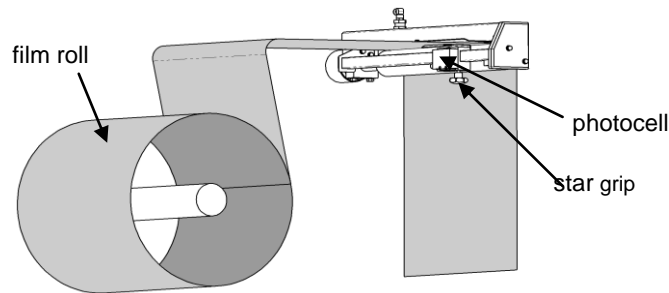

Figure 5.7 Setting the photocell
The machine can be equipped with a photocell that is used for packaging with a printed top film (see Figure 5.7).
- Loosen the star grip (see Figure 5.7) and aim the photocell at the marking across the machine. Set the position by tightening the star grip again.